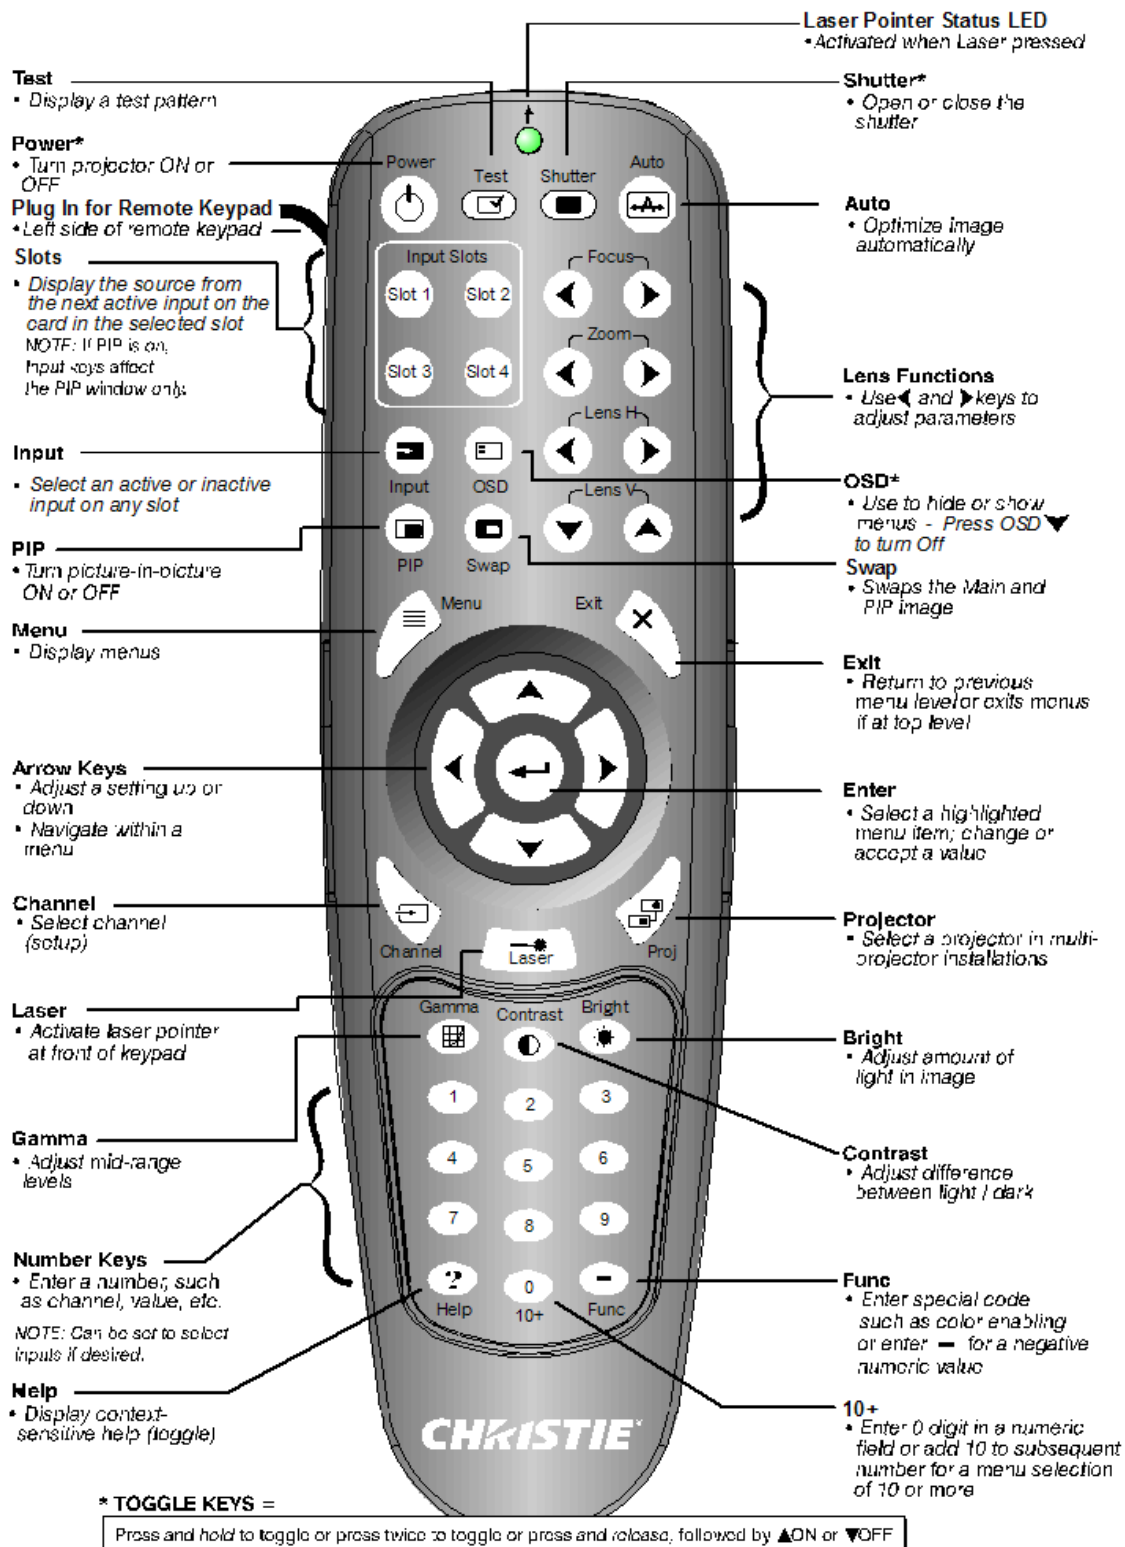

FIGURE 3-1 REMOTE KEYPAD
- **Remote Keypad** for wired or wireless control up to 25 feet (8m) away (includes cable for use as a wired remote) (Figure 3-1).
Press keys one-at-a-time; there are no simultaneous key combinations required. **NOTE:** POWER, SHUTTER, and OSD function by: “press-and-hold” (2 seconds), press twice quickly, or press UP ARROW KEY to switch on or press DOWN ARROW KEY to switch off (Figure 3-1).
See the key descriptions provided for the remote keypad (Figure 3-1).
Specific keypad commands are explained (*Figure 3-1*):